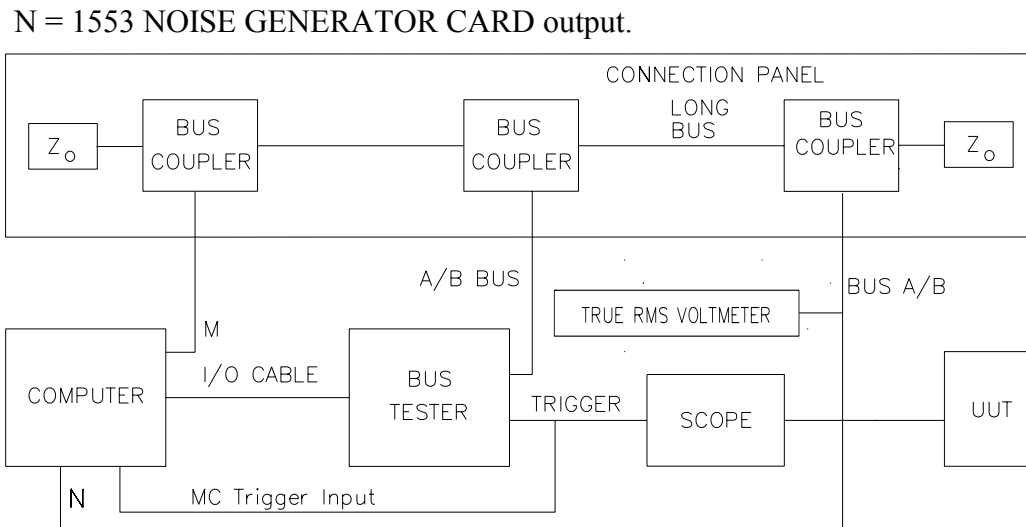
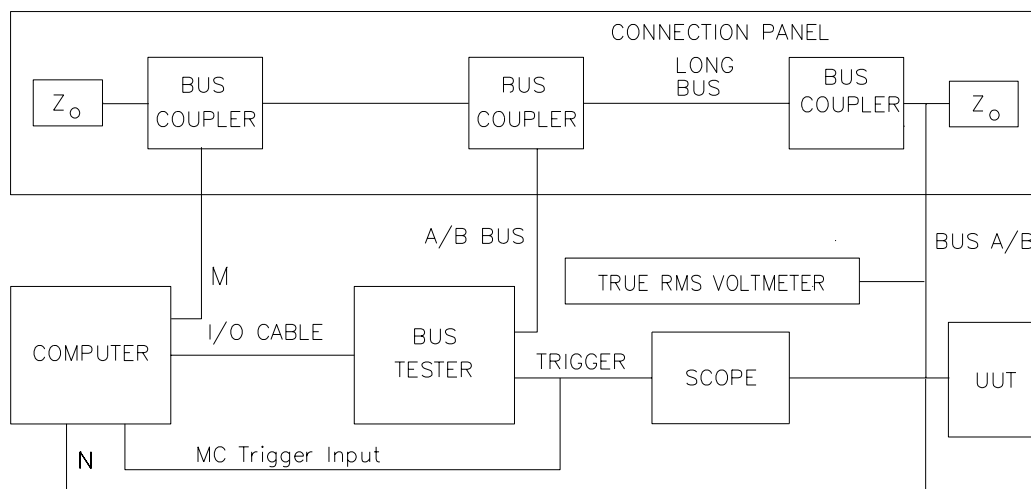

Figure 13. Noise Rejection Transformer Coupled Configuration
Figure 14. Noise Rejection Direct Coupled Configuration
A. Connect the equipment as shown in Figure 13 or Figure 14 for the transformer coupled or direct coupled bus to be tested. See Figure 10A of the RT Validation Test Plan for the Noise Rejection Test Configuration. Note: The True RMS Voltmeter should be warmed up for one hour prior to testing.